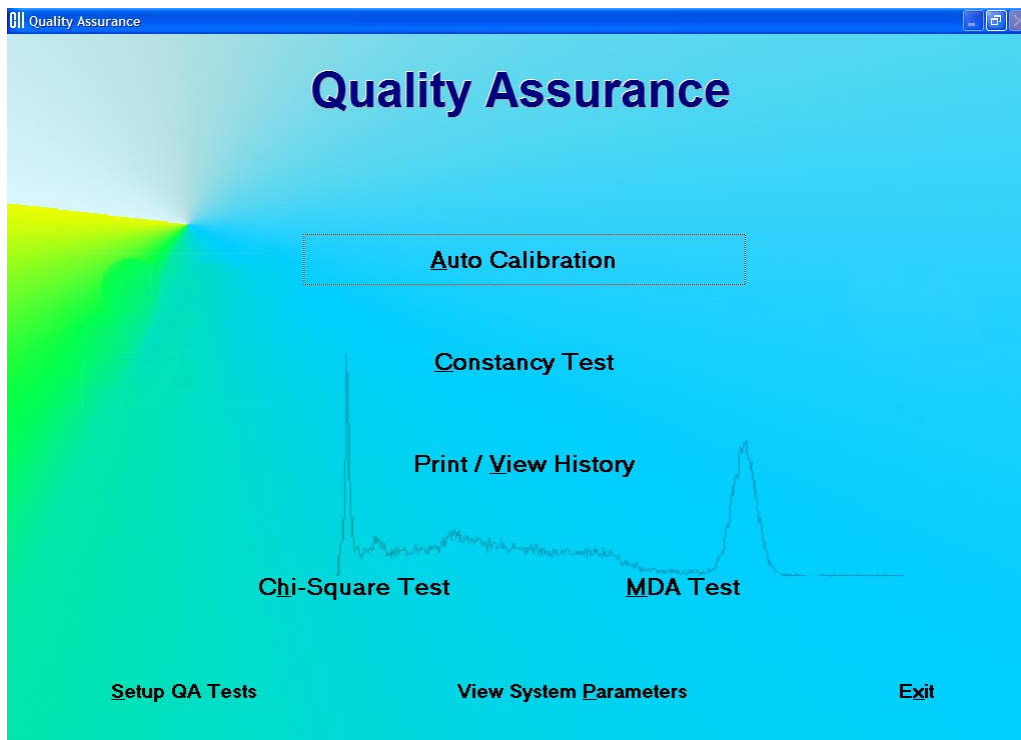

Figure 5-1 Quality Assurance Main Screen
To access the QA tests, click the **Quality Assurance** button or press *Alt+Q* on the Absorbed Dose ALERT Main screen. Figure 5-1 Quality Assurance Main Screen appears as shown.
accessible through the **Setup QA Tests** button at the bottom of Figure 5-1 Quality Assurance Main Screen or through the **Setup** button provided on all QA Test screens.
1. Click the **Setup QA Tests** button or press *Alt+S* on Figure 5-1 Quality Assurance Main Screen. Figure 5-2 Quality Setup Screen appears as shown.
5. Click the **Done** button or press *Alt+D* to save the changes or click the **Cancel** button to cancel the changes made and return to Figure 5-1 Quality Assurance Main Screen.
- Rest your mouse close to each module title on Figure 5-1 Quality Assurance Main Screen to read a brief description of that function.
- Keep a record of the parameters set above. To do so, click the **View System Parameters** button on Figure 5-1 Quality Assurance Main Screen and click the **Print** button.
1. Click the **Auto Calibration** button or press *Alt+A* on Figure 5-1 Quality Assurance Main Screen. Figure 5-3 Auto Calibration Screen will appear. When the procedure is started, the spectrum appears in the upper half of the screen as it is being collected and displays the measurement time elapsed in the upper right corner. Note that the **Cs137 Efficiency** button at the top of the screen is enabled only after calibration has been done at least once on that day.
15. Click the **Exit** button or press *Alt+X* to exit and return to Figure 5-1 Quality Assurance Main Screen.
1. Click the **Constancy Test** button or press *Alt+C* on Figure 5-1 Quality Assurance Main Screen. Figure 5-11 Constancy Test Main Screen will appear.